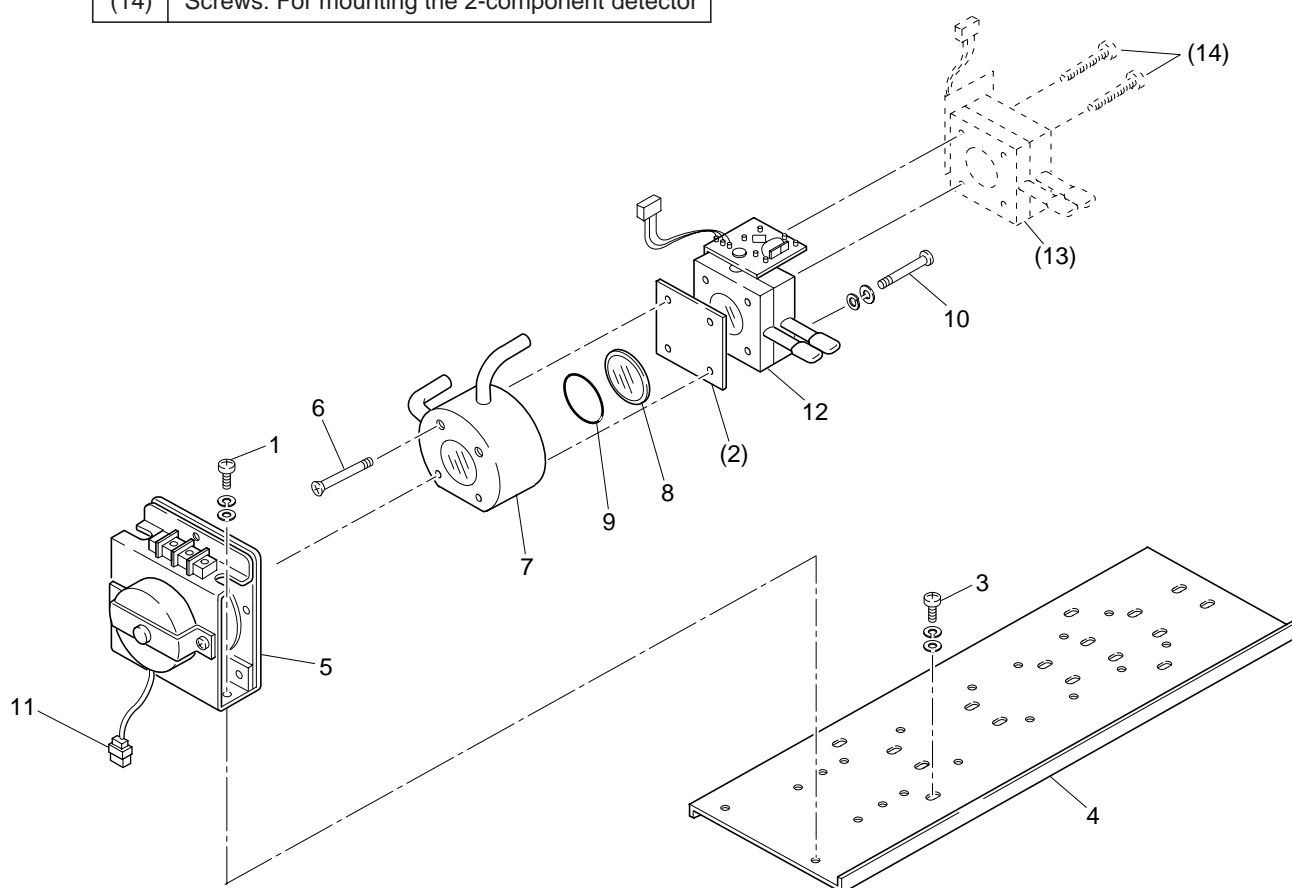

Fig. 7-2 Configuration of measuring unit (block cell)
**(2) How to remove block cell (See Fig. 7-2)**